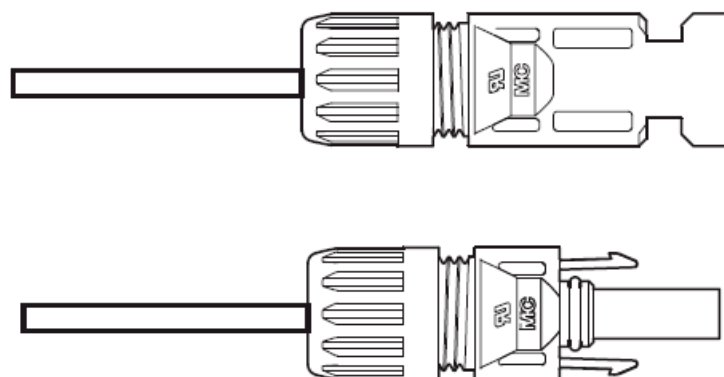

Figure 7.12.4 Connector with Cap nut Screwed on
- 4) Insert metal connector into top of connector, and tighten nut with torque 3—4 Nm (see figure 7.12.4).